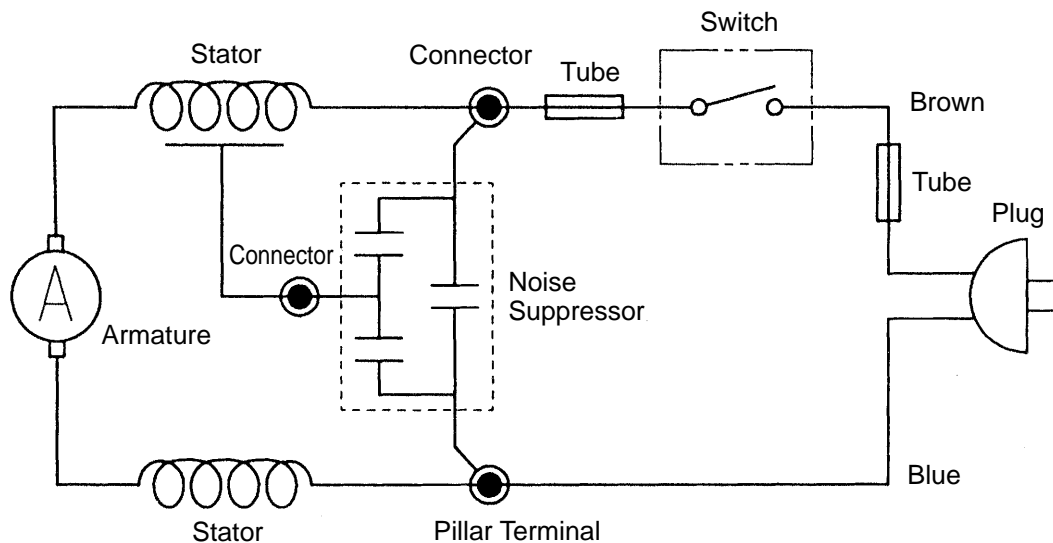

Fig. 17
- Wiring diagram of products with noise suppressor (Fig. 17)